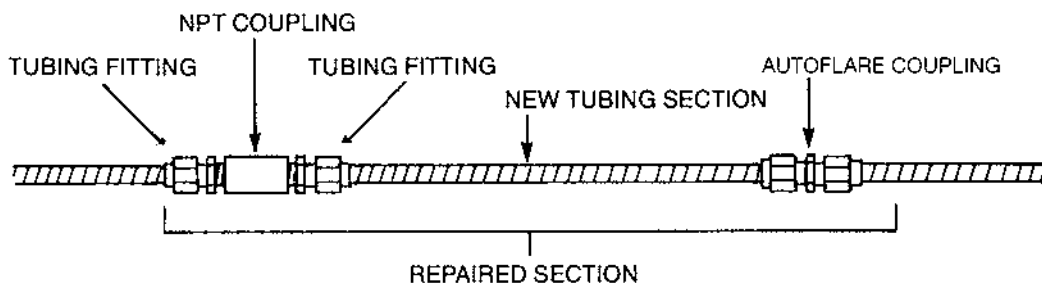

Figure: 5-4 – Repair of Damaged Tubing with a New Section of Tubing and a joint splice or a **TracPipe® CounterStrike® AutoFlare®** or **AutoSnap®** Coupling
1. Where repairs or replacements involve corrugated stainless steel tubing systems of different manufacturers, the systems can be joined again through standard pipe couplings and the appropriate CSST fittings. Figure: 5-4.